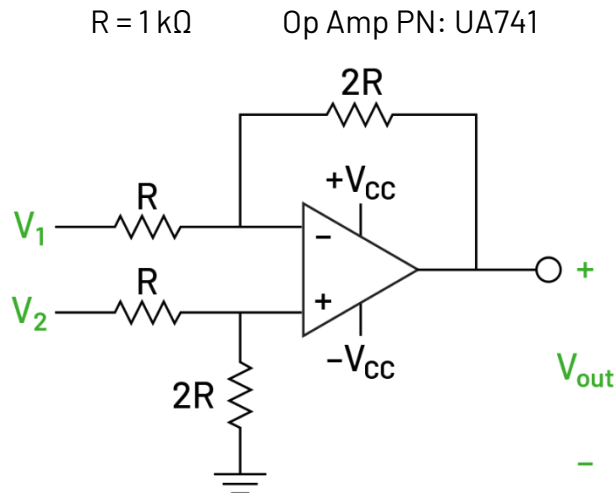
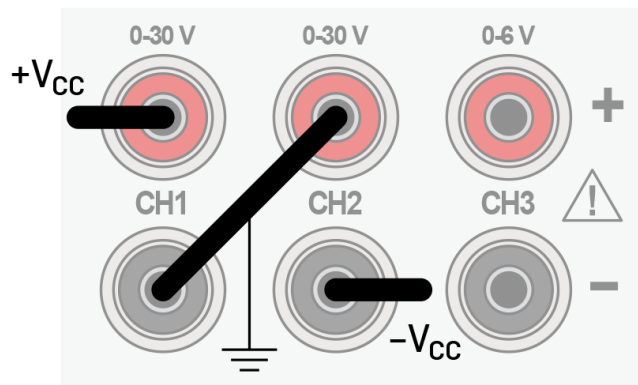

Figure 1. Difference amplifier circuit diagram.
Figure 2. Wire diagram of 2230 power supply for powering op amp.
1. Build the difference amplifier circuit in Figure 1. making sure to connect the correct resistors to the inverting and non-inverting inputs. To power the op amp, use the DC power supply with the configuration in Figure 2. By connecting the negative output from channel 1 and the positive output from channel 2, the new reference ground allows the power supply to output positive and negative voltages. Connect the channel 1 probe to V_1 , channel 2 probe to V_2 , and channel 3 probe to V_{out} on the oscilloscope.